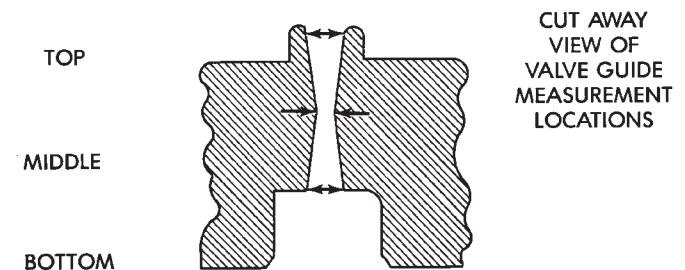

Fig. 95 Checking Wear on Valve Guide—Typical
- (1) Remove carbon and varnish deposits from inside of valve guides with a reliable guide cleaner.
- (2) Using a small hole gauge and a micrometer, measure valve guides in 3 places top, middle and bottom (Fig. 95). Refer to (Fig. 96) for specifications. Replace guides if they are not within specification.